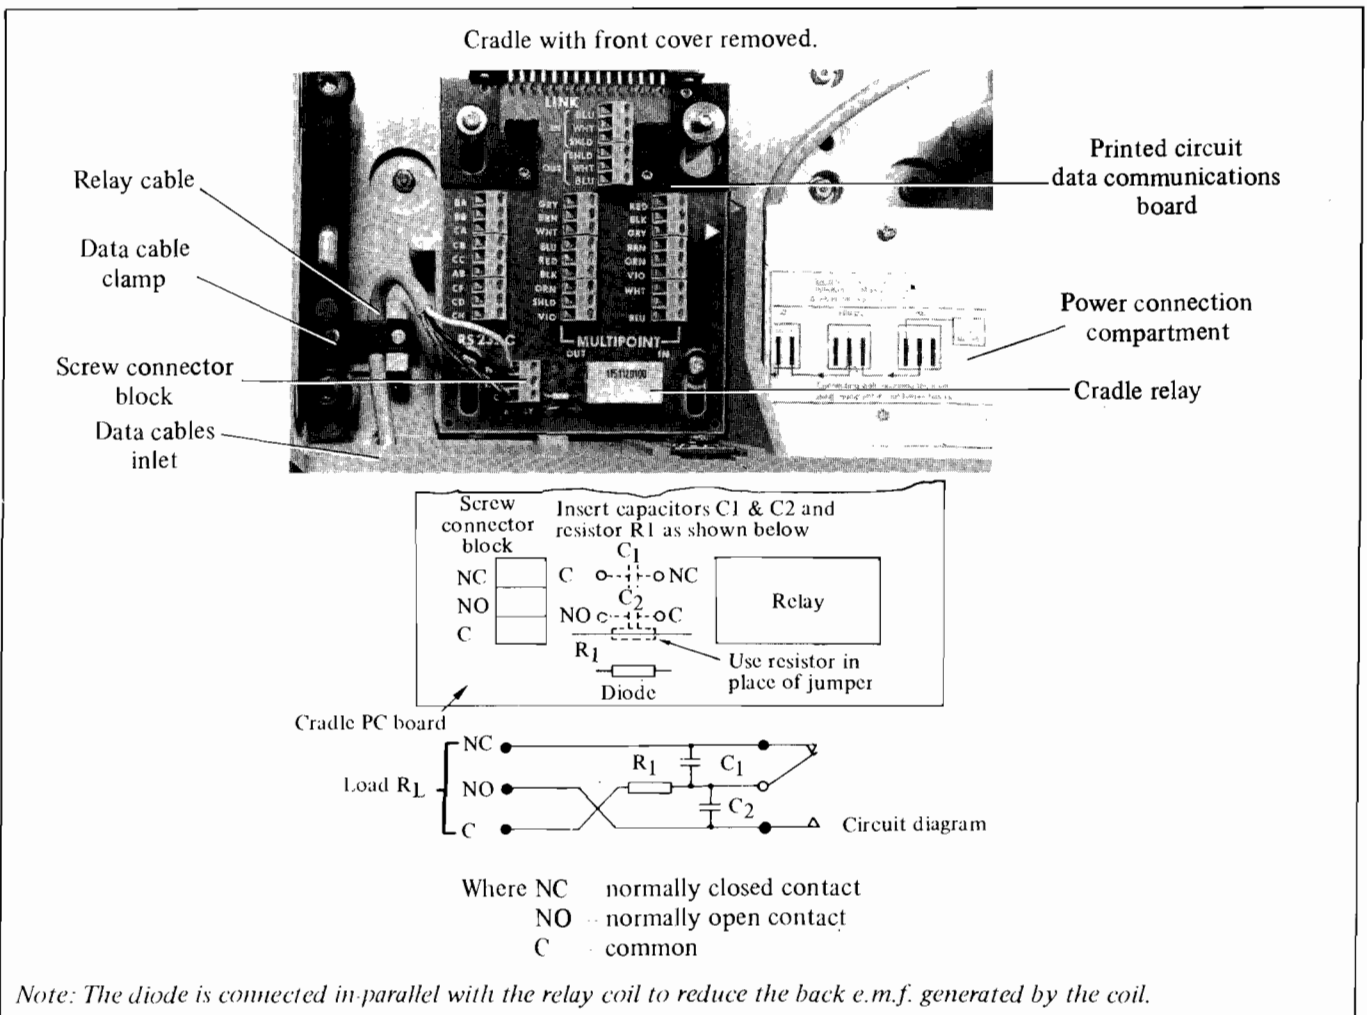

Figure 15-6 Cradle Relay Connections
The cradle relay is mounted at the bottom of the printed circuit data communications board, housed in the base of the cradle (see figure 15-6). If the cradle relay is to be used to control an external device, the relay specifications must first be considered:
If the load to be connected to the relay is inductive or capacitive, the relay contacts should be protected from high current surges by wiring a resistor and capacitors across the contacts (see figure 15-6).
- 4) Within the base unscrew the data cable clamp situated above the data cables inlet, see figure 15-6.
- 6) Feed the relay cable through the data cables inlet and through the cable clamp. Connect the wires to the relay screw connector block as shown in figure 15-6.
- 7) Ensure the relay cable has a loop (see figure 15-6). This is necessary because when the terminal is installed in the cradle the printed circuit board must be able to move upward to mate with the terminal 30-pin connector.